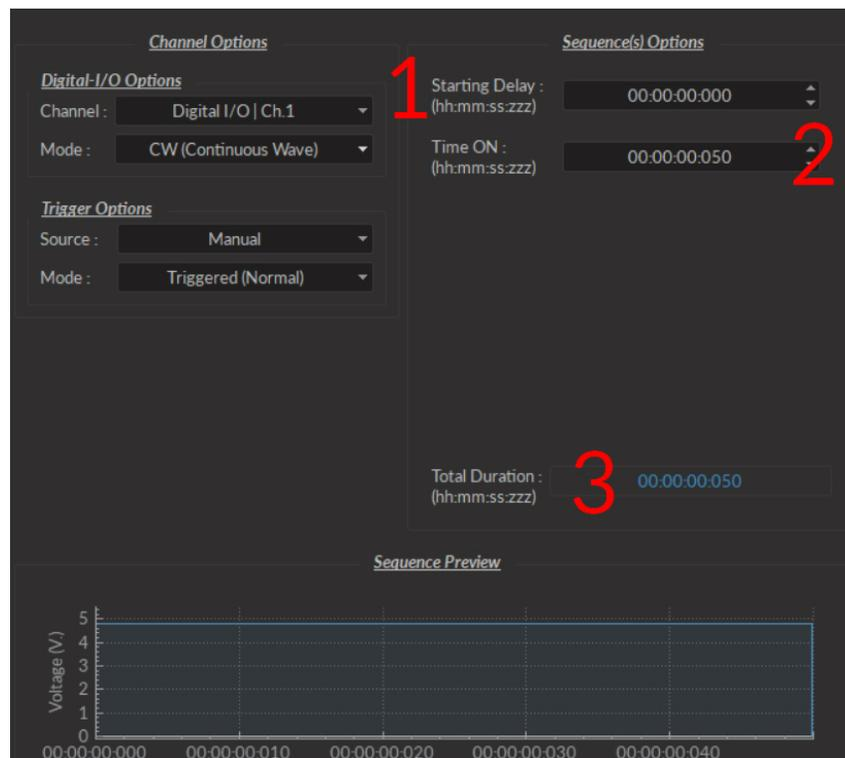

Figure 3.8: Channel(s) configuration window, Digital I/O CW
- The **CW(Continuous Wave)** channel mode (Fig. 3.8) allows the creation of a continuous TTL pulse sequence. The following elements appear in the **Sequence Options** box.